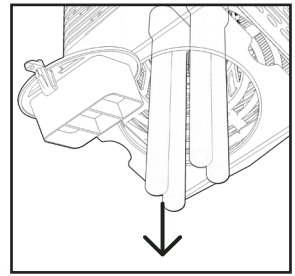

Fig. 3
5. Wearing gloves, Gently tug on the bulb to remove. *(Fig. 3)*